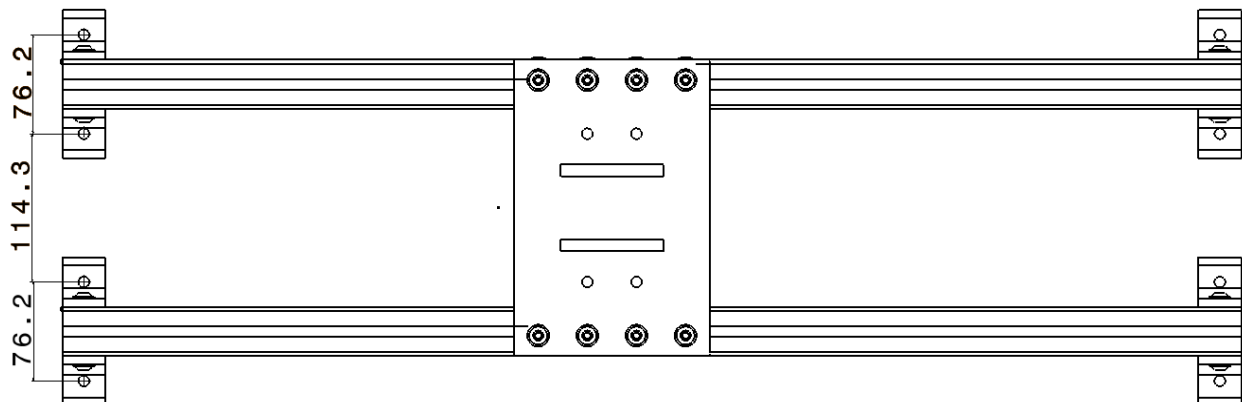

Fig. 3.3: Single-motor railing system (SKU#: KADXH)
- Single-motor ground railing system shown in Fig. 3.3 (SKU#: KADXH)
- ❑ Once inserted, the assembled railing system will look similar to Fig. 3.3.
- ❑ In Fig. 3.3 dimensions are just nominal. You can put this railing system on the floor and fix it with your own holes on the floor or the plywood.